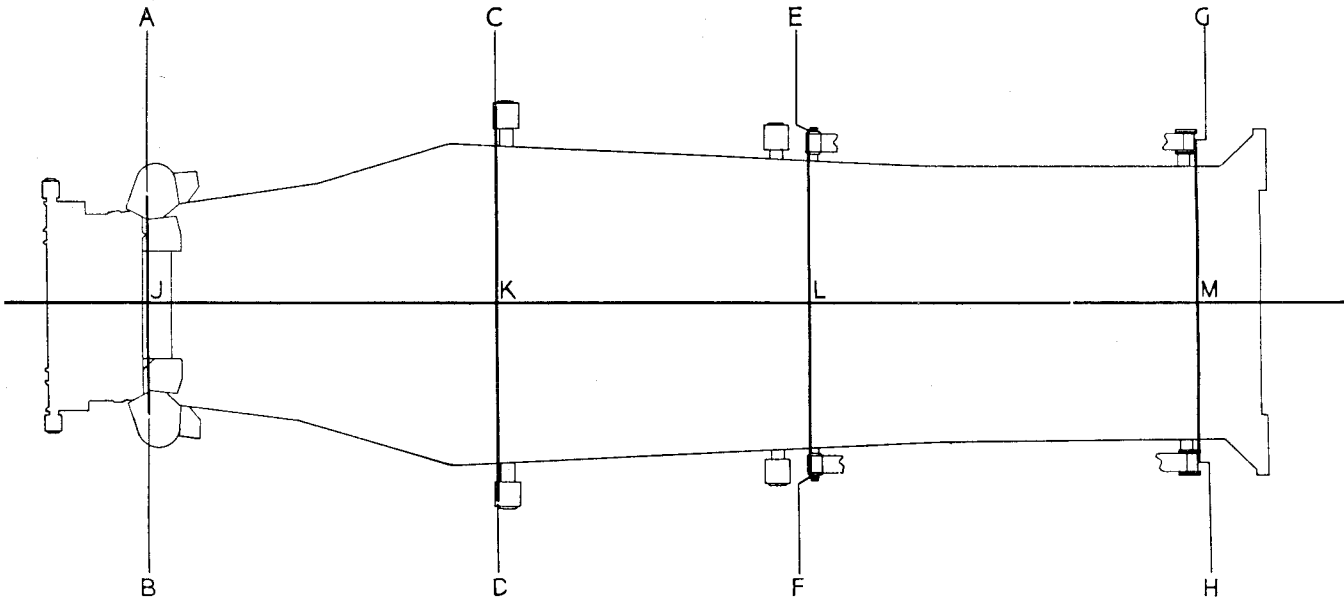

Fig. 5
7. CHECKING THE SIDE MEMBERS FOR BOWING (Fig. 5)